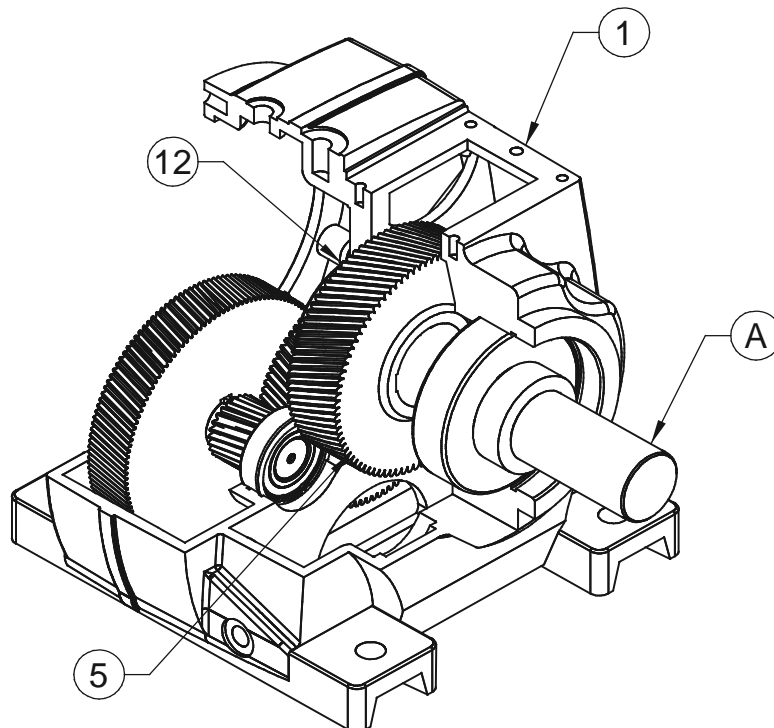

FIGURE 7.3A
7.3.2. Position bearing (12) in inner central housing (see Figure 7.3A).
7.3.3. Post the final wheel (5) through the inspection cover opening, and carefully mesh with the final pinion shaft (10), see Figure 7.3A. Simultaneously introduce the dummy output shaft (A) through the output bore housing locating the final wheel and the inner bearing.